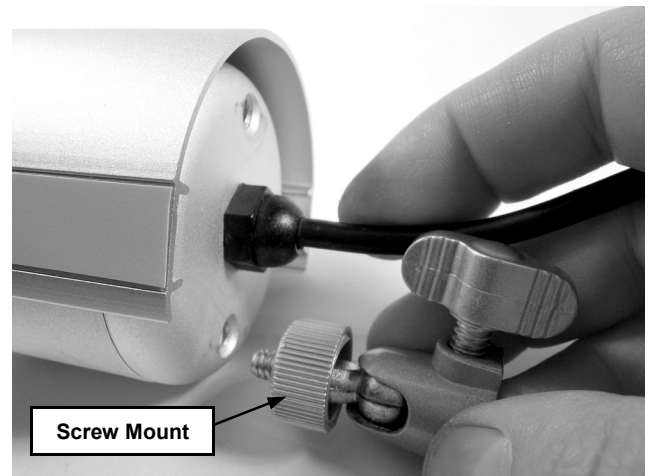

Fig. 4: Insert screw mount into a screw hole (turn clockwise to tighten).
2. Disconnect the base by turning the thumbscrew counter-clockwise. Insert the screw mount into one of the screw holes in back of the camera and turn the screw mount clockwise to tighten (see Figs. 4 & 5).